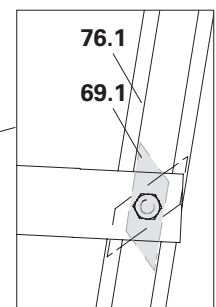

Fig. A9.12c
3. Fit ladder 180/6 to ladder connector. To do this, slightly loosen screw M12 x 25 of the clamping plate (**69.1**), insert the clamping plate into the ladder stile (**76.1**), turn and tighten the screw. (Fig. A9.12c + A9.12d)